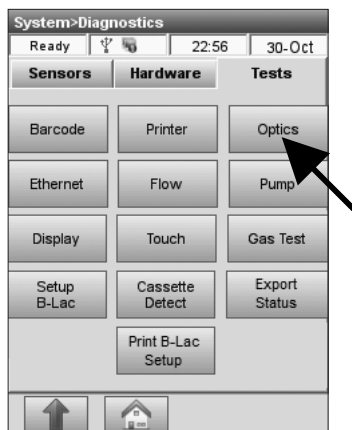

Fig. 8-16 Optics Test
- Press **<Optics>** to start the test (Fig. 8-16).